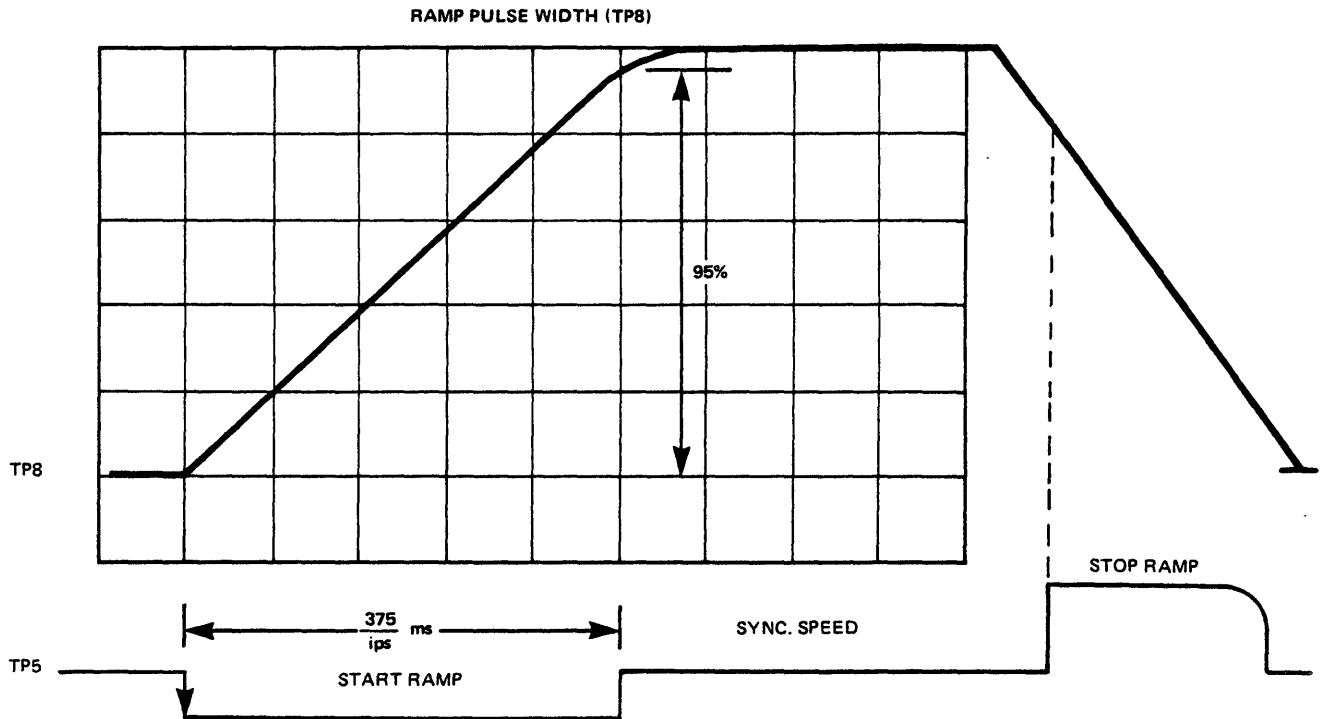

Figure 5-2. Forward Ramp Waveform
- b. Initiate forward-stop tape sequence by using the maintenance switch SW1. Observe the oscilloscope display (see figure 5-2).